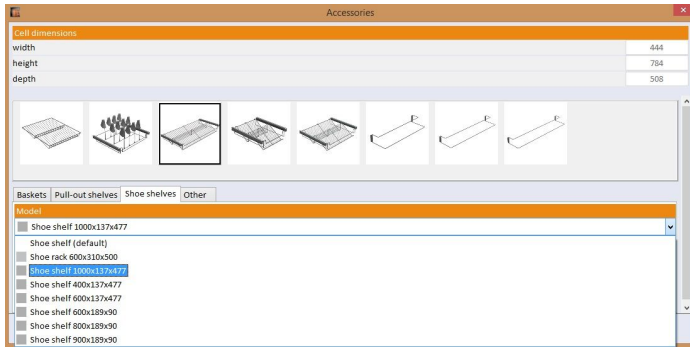

Fig. 130- Editing accessories - selection of other elements
- change the type of the inserted accessory (you can choose different types of baskets, pull-out shelves, shoe racks or other) (Fig. 130);